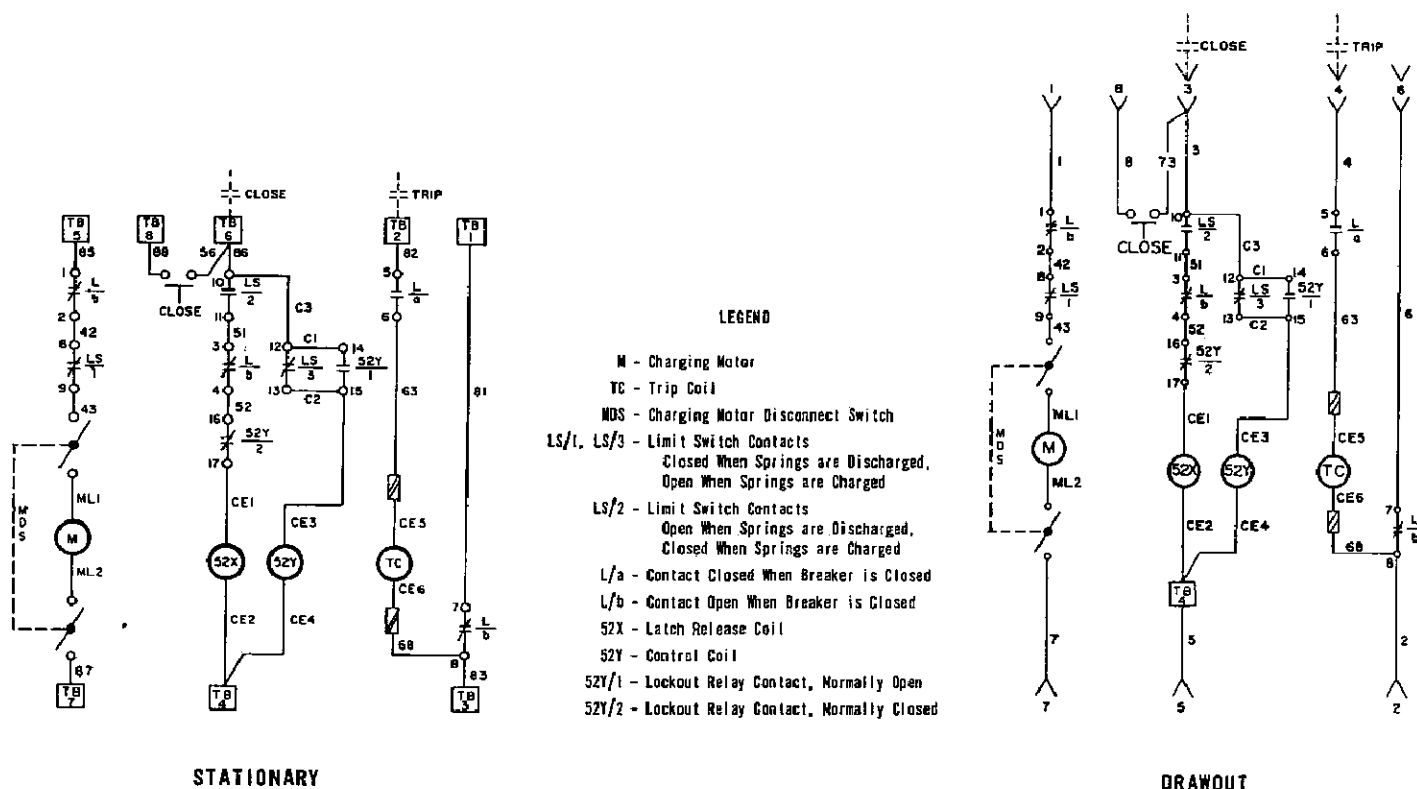

Fig. 2 — Typical Schematic Diagram of Control Circuit
The control device (Fig. 12) is furnished on electrically operated circuit breakers. The device is mounted below and to the left of the mechanism. The control device contains three electrical components, the limit switch (LS), the lockout relay (52Y), and the latch release relay (52X). The schematic diagram of the control circuit (Fig. 2) illustrates the function of this device. In addition to its electrical functions, the base of the device provides a terminal block for the circuit breaker wiring.
The auxiliary switches contain the "a" and "b" contacts (Fig. 2) and are furnished in 4 or 8 contact ar-